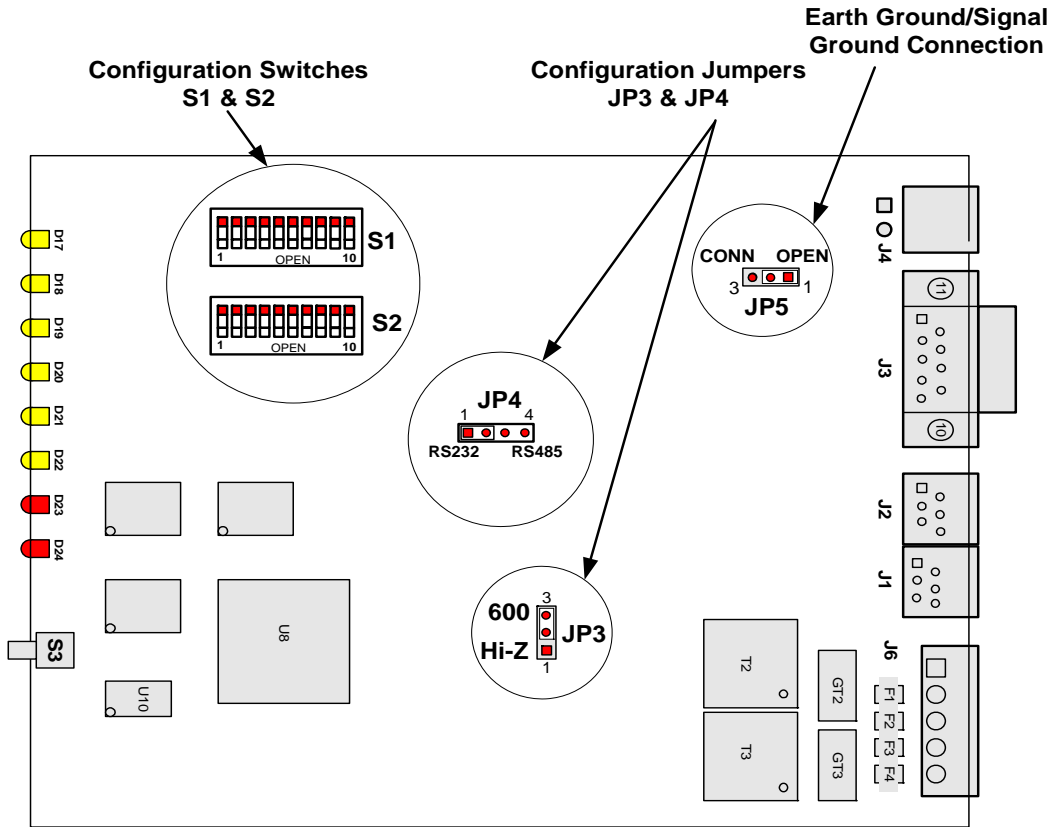
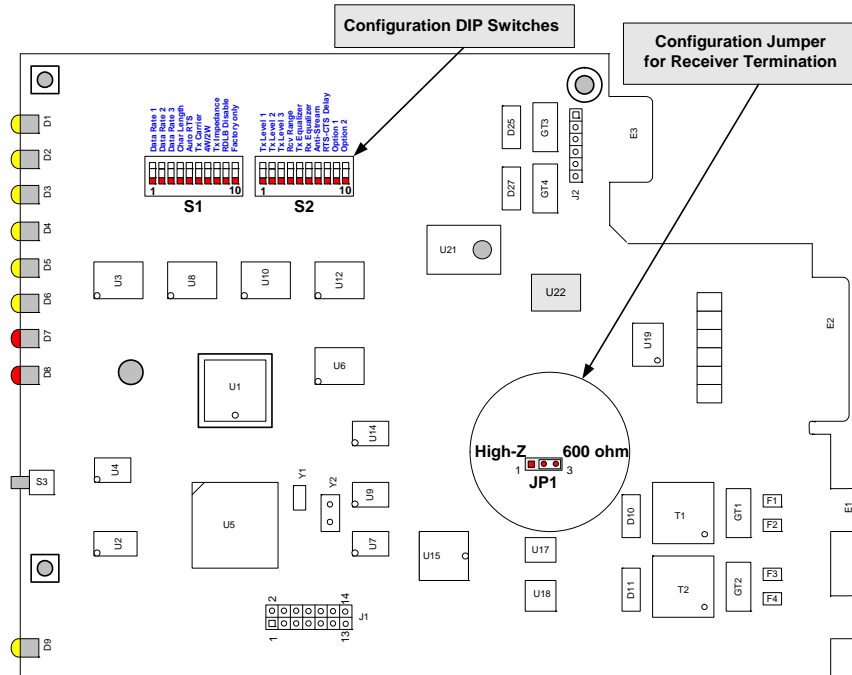

Figure 2-4. IG192HFP Fast-Poll Stand-alone Modem Board
Figure 2-5. IG192HFP Fast-Poll Rack-mount Modem Board
3. Use a small Philips screw driver to remove the front panel and carefully slide the modem board out of the enclosure. The location of the DIP switches and jumpers for the stand-alone modem are shown in Figure 2-4. For DIP switches and jumpers on the rack-mount plug-in module, see Figure 2-5.